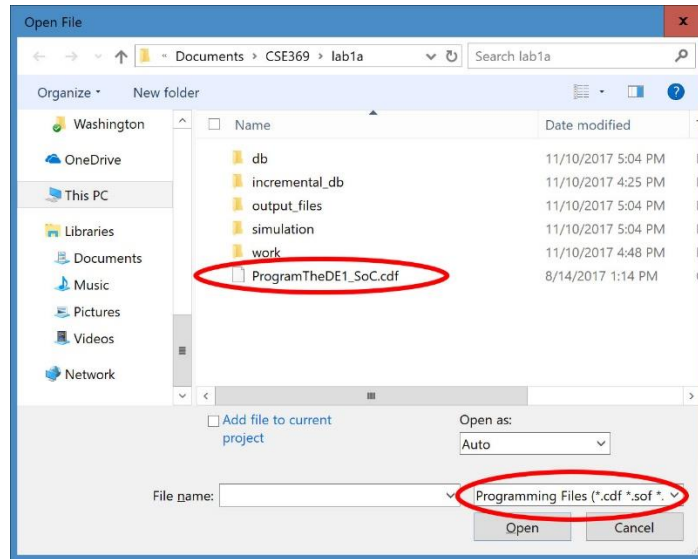

Figure 13: Open the chain description file (.cdf) to program the DE1-SoC
- 3) In Quartus, go to File→Open. In the “Files of type” box at bottom, select “Programming Files (*.cdf ...)” and then double-click on `ProgramTheDE1_SoC.cdf` (*Figure 13*).